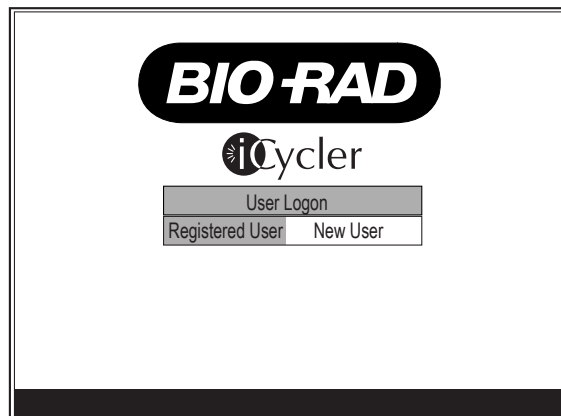
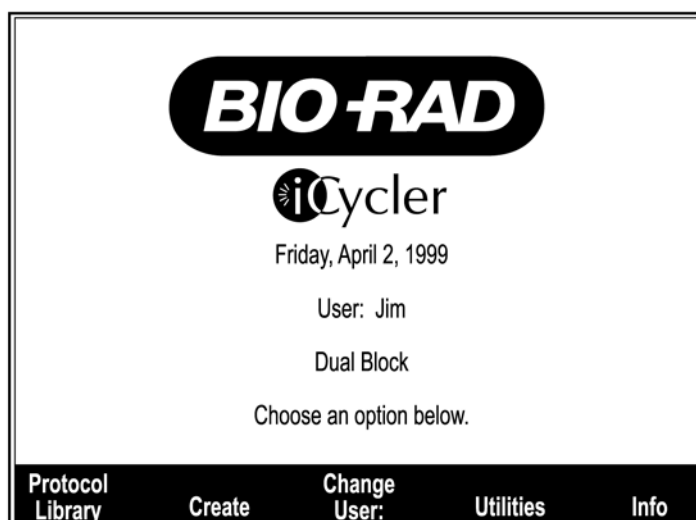

Fig. 2.1. Logon screen.
Fig. 2.3. Home screen.
Upon powering up, a **Self Test** screen is displayed, indicating that the machine is checking the status of its systems including the RAM and ROM, thermistors, lid heater power, lid heater heating, control of peltier elements, the joule heaters, display, and keyboard. If any system fails, an appropriate message and instructions will be provided on the screen. If all systems pass, the **Logon** screen is displayed (see Figure 2.1.)
In order to use the iCycler, you must first log on. Once the system is powered up and the system check has been performed, the **User Logon** screen is displayed (see Figure 2.1). Two options are displayed:
4. If you have PIN protection of your protocols, use the number keys to input your PIN and press **Enter**. The **Home** screen will be displayed (see Figure 2.3.)
To log on as a different user, select the **Change User** softkey in the **Home** screen (see Figure 2.3). The User Logon screen will be displayed (see Figure 2.1), allowing you to log on as a registered or new user.